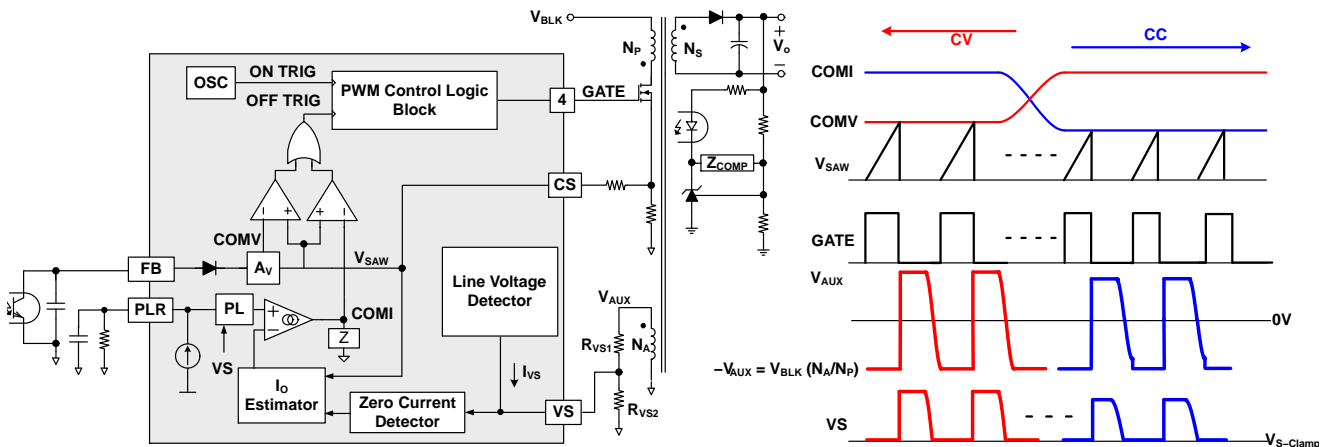
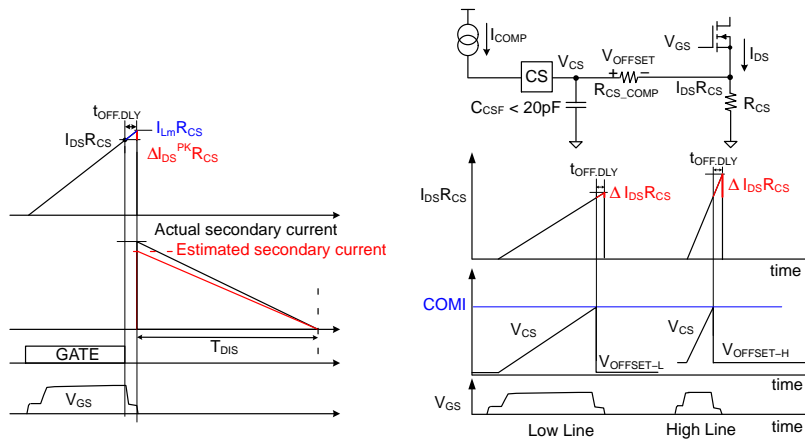

Figure 27. Simplified PWM Control Circuit and PWM Operation for CV/CC Regulation
Figure 29. Effect of MOSFET Turn-off Delay and Line Voltage Compensation
Figure 27 shows a simplified CV / CC PWM control circuit of the FAN604P. The Constant Voltage (CV) regulation is implemented in the same manner as the conventional isolated power supply, where the output voltage is sensed using a voltage divider and compared with the internal reference of the shunt regulator to generate a compensation signal. The compensation signal is transferred to the primary side through an opto-coupler and scaled down by attenuator AV to generate a COMV signal. This COMV signal is applied to the PWM comparator to determine the duty cycle.
These two control signals, COMV and COMI, are compared with an internal sawtooth waveform (VSAW) by two PWM comparators to determine the duty cycle. Figure 27 illustrates the outputs of two comparators, combined with an OR gate, to determine the MOSFET turn-off instant. Either of COMV or COMI, the lower signal determines the duty cycle. During CV regulation, COMV determines the duty cycle while COMI is saturated to HIGH level. During CC regulation, COMI determines the duty cycle while COMV is saturated to HIGH level.
The output current estimation is also affected by the turn-off delay of the MOSFET as illustrated in Figure 29. The actual MOSFET's turn-off time is delayed due to the MOSFET gate charge and gate driver's capability, resulting in peak current detection error as
Where L_m is the transformer's primary side magnetizing inductance. Since the output current error is proportional to the line voltage, the FAN604P incorporates line voltage compensation to improve output current estimation accuracy. Line information is obtained through the line voltage detector as shown in Figure 27. I_{COMP} is an internal current source, which is proportional to line voltage. The line compensation gain is programmed by using CS pin series resistor, R_{CS_COMP}, depending on the MOSFET turn-off delay, t_{OFF,DLY}. I_{COMP} creates a voltage drop, V_{OFFSET}, across R_{CS_COMP}. This line compensation offset is proportional to the DC link capacitor voltage, V_{BLK}, and turn-off delay, t_{OFF,DLY}. Figure 29 demonstrates the effect of the line compensation.